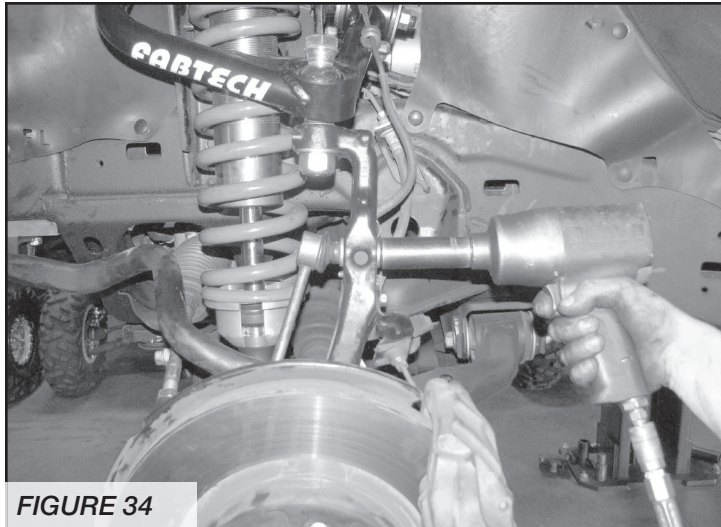

FIGURE 34
20. Re-attach sway bar end link to knuckle using factory hardware. Tighten to 75 Ft - Lbs. **SEE FIGURE 34**